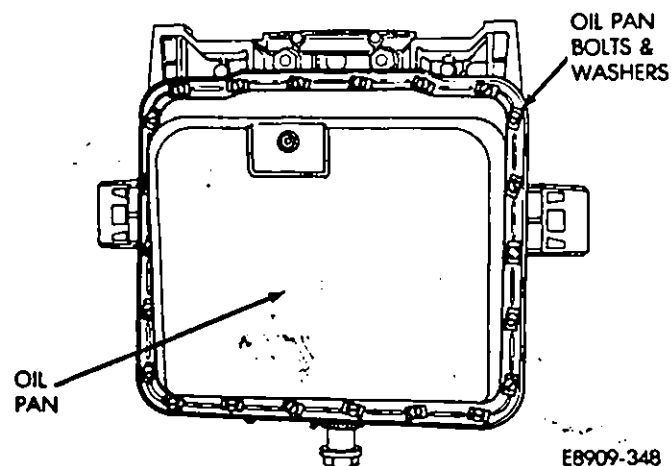

Fig. 1—Oil Pan
- (1) Drain the engine oil.
- (2) If the cylinder head is removed, install liner clamps across the 4 center head bolts to keep the liners in place.
- (3) Rotate the engine on the engine stand until the oil pan points up.
- (4) Remove the oil pan bolts and washers (Fig. 1).
- (5) Remove oil pan (Fig. 1).